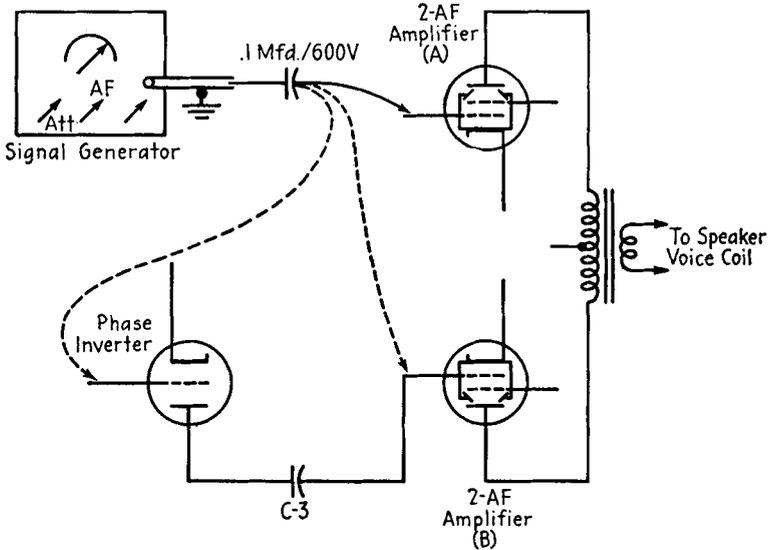

FIG. 22-15. Signal check of a push-pull amplifier.
**Signal check for normal stage operation.** The signal check for the stage is shown in Fig. 22-15. The signal generator is adjusted to give an AF